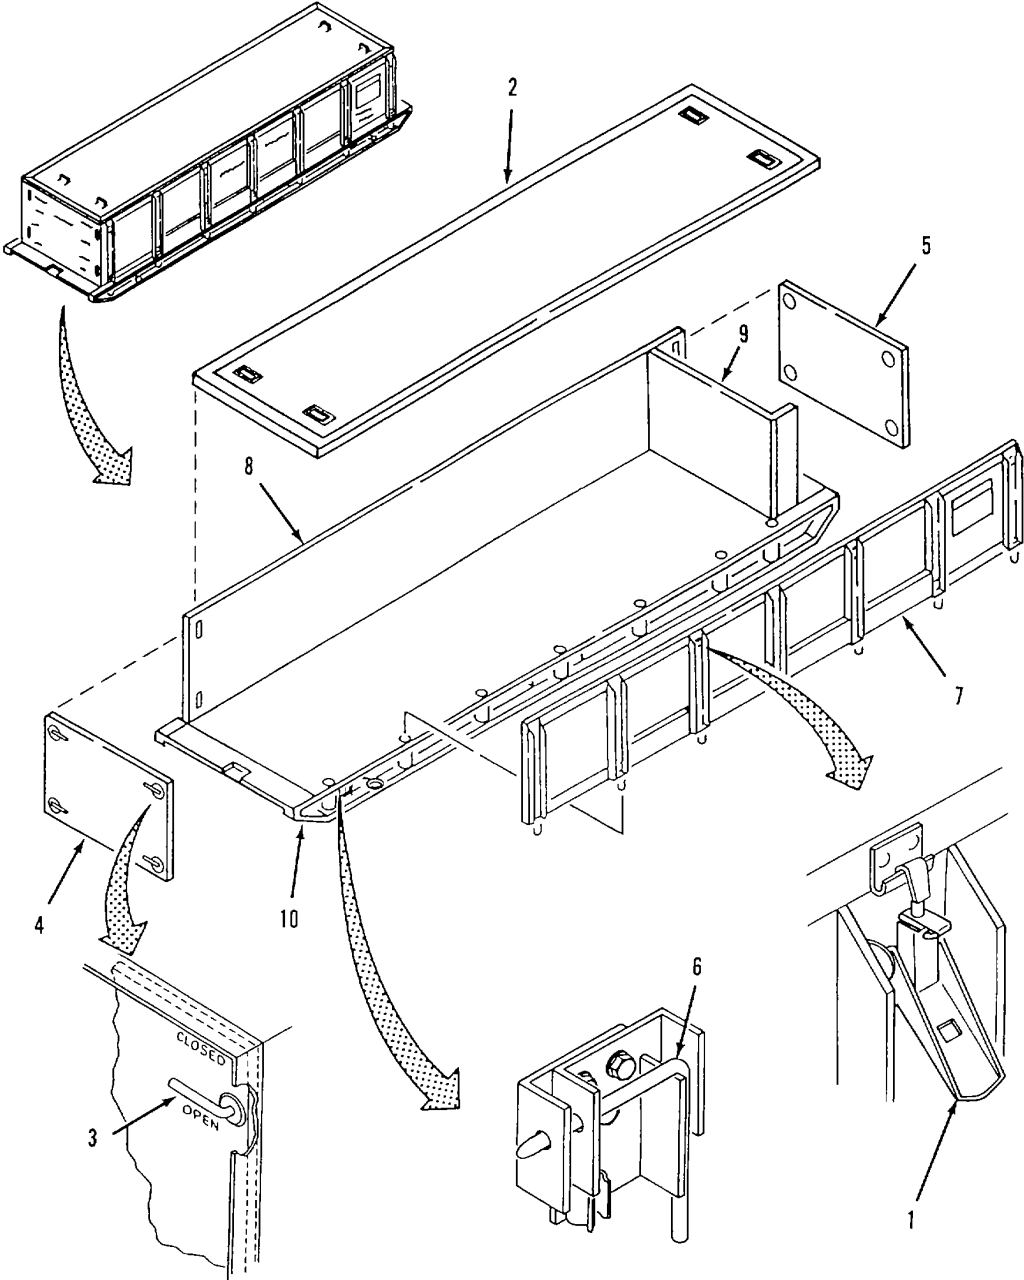

Figure 4-42. Water Tank Chest Repair.
a. Disassembly. Refer to figure 4-42.
- (1) Unfasten eight latches (1) located on side panels (7 and 8).
- (2) Lift top cover (2) from tank chest.
- (3) Move four handles (3) on end panel (4) to OPEN position. Remove end panel from water tank chest.
- (4) Repeat step (3) for other end panel (5).
- (5) Unlock four locking pins (6) and lift side panel (7) from skid (10).
- (6) Repeat step (5) for other side panel (8).
- (7) Remove divider pan (9) from skid (10).
- (a) Unscrew hoisting ring (1) from skid (10).
- (b) Screw replacement hoisting ring (1) into skid (10).
- (2) Locking pin replacement.
- (a) Remove three nuts (2), lockwashers (3), flat washer (4), screw (5) and flat washer (6) from skid (10).
- (b) Separate outer latch bracket (7) and inner latch bracket (9) from skid (10).
- (c) Remove locking pin (8) from inner latch bracket (7).
- (d) Position replacement locking pin (8) in inner latch bracket (7).
- (e) Position inner latch bracket (7) and outer latch bracket (9) on skid (10).
- (f) Install three flat washers (6), screws (5), flat washers (4), lockwashers (3) and nuts (2).
- (3) Replace skid if damaged beyond repair.
d. Assembly. Refer to figure 4-42.
- (1) Position side panel (7) on skid (10). lock four locking pins (6).
- (2) Repeat step (1) for other side panel (8).
- (3) Position end panel (4 and 5) between side panel (7 and 8). Turn four handles (3) to CLOSE position on both end panels.
- (4) Position divider pan (9) on skid (10).
- (5) Lower top cover (2) onto water chest. Fasten eight latches (1).